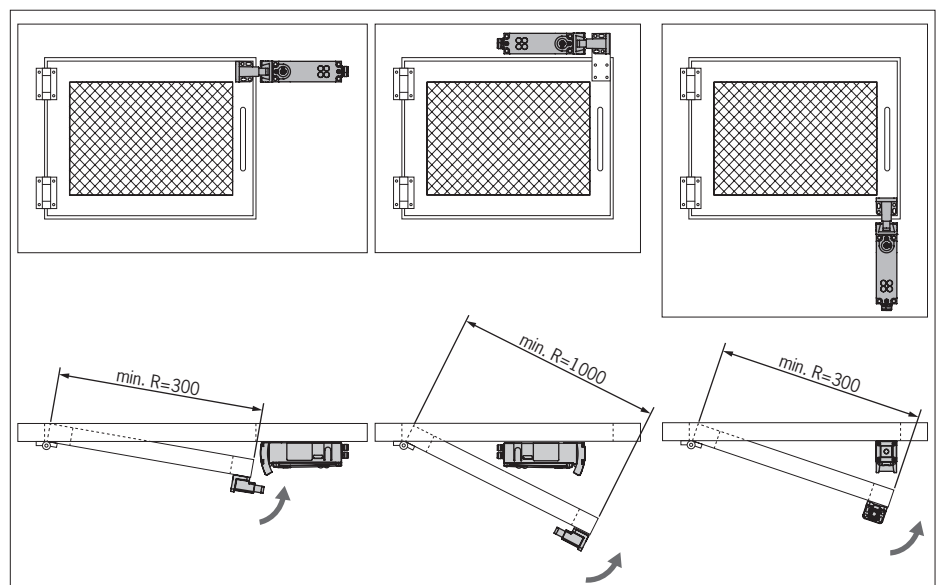

Fig. 10: Door radii and approach zone
- ▶ Observe the min. door radii (see Fig. 10).